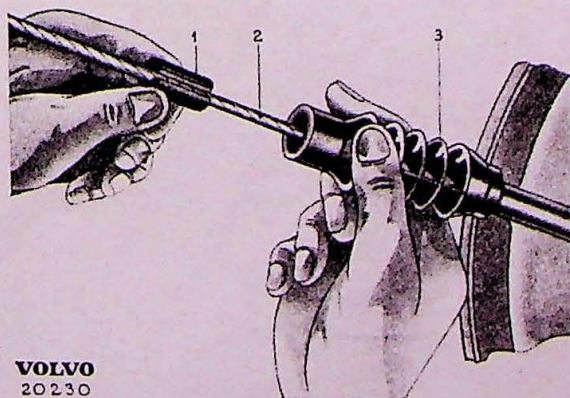

Fig. 14.
The slotted seal plug (1, Fig. 14) should be put on the cable (2) and then pushed into the rubber cover (3).